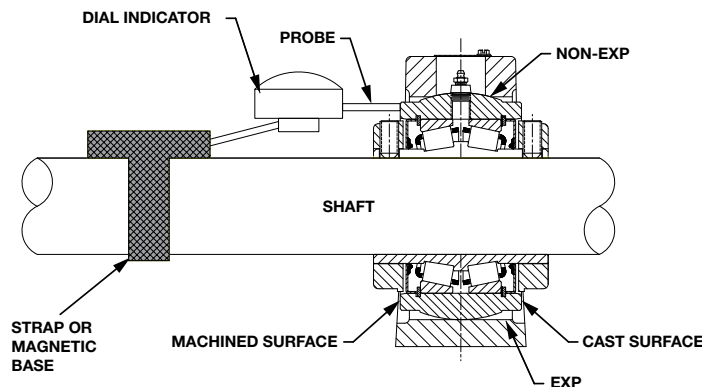

Figure 1 - Mounting Diagram
6. Mount a dial indicator on the shaft near the non-expansion (fixed) bearing. Place the indicator probe so that it contacts the machined surface of the S-1 Unit Housing perpendicular to that surface. See Figure 1. Note that only one face of the S-1 unit is machined.